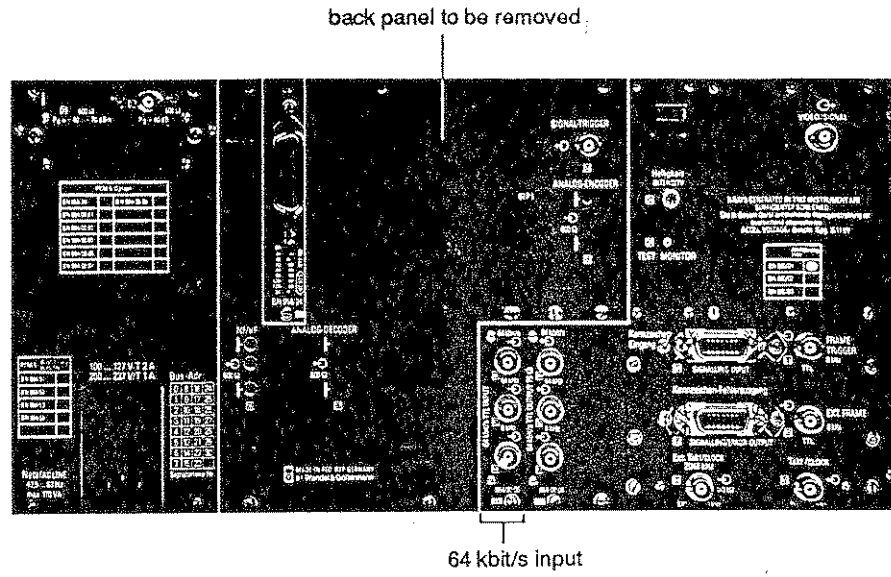

Figure D-3 Rear view of the PCM-4
2. Remove the rear panel of the PCM-4 as indicated in fig. D-3.